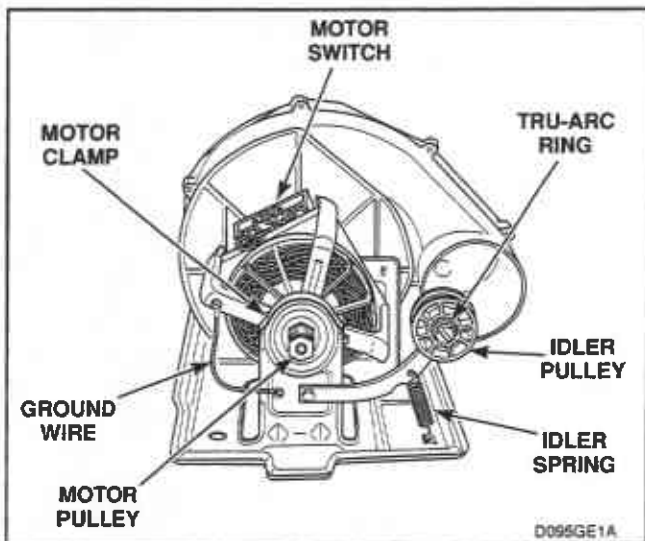

Figure 27
Refer to *Figure 27* for motor and idler pulley removal.
- (2) Disconnect ground wire from motor, *Figure 27*.
- (3) Pry two motor clamps off motor mounting bracket with screwdriver, *Figure 27*, then lift motor out of mounting bracket.